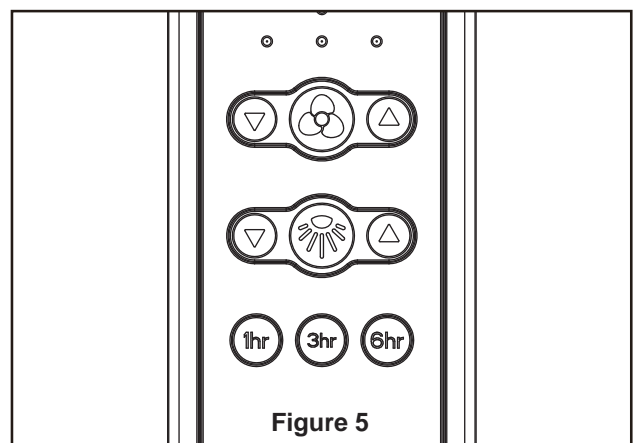

Figure 5
4. Once the connection has been made, slide the receiver into the hanger bracket, taking care not to pinch the wires. (Figure 5)
5. Remove one of the three screws in the lower housing assembly. Retain the screw for later and slightly loosen the remaining two screws. (Figure 5)
5. Remote functions: (Figure 5)